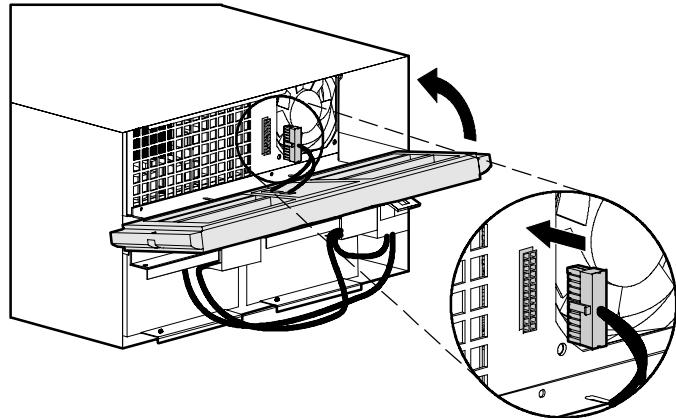
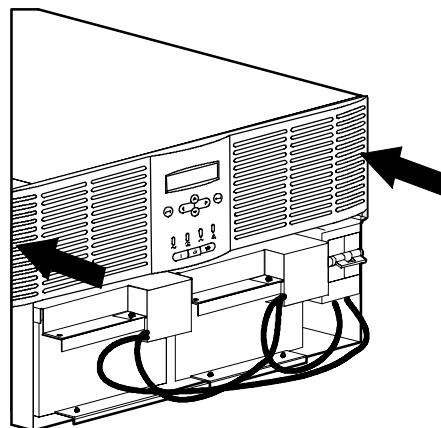

Figure 16. Installing the UPS Front Panel
Figure 17. Securing the UPS Front Panel
2. Attach the UPS front panel interface connectors to the chassis. Lift the front panel into place and secure to the chassis with the attached screws. See Figure 16 and Figure 17.